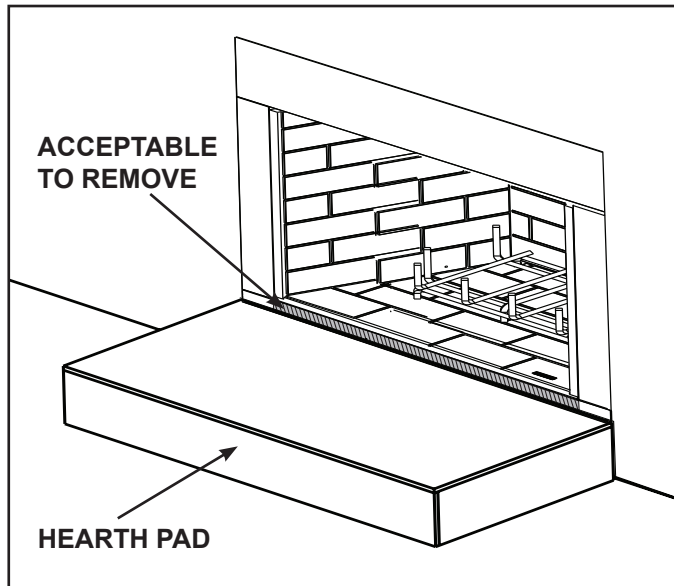

Figure 3.7 Solid Fuel Firebox
- A metal lip protruding above the hearth pad of the solid fuel firebox may be removed. See Figure 3.7. ←